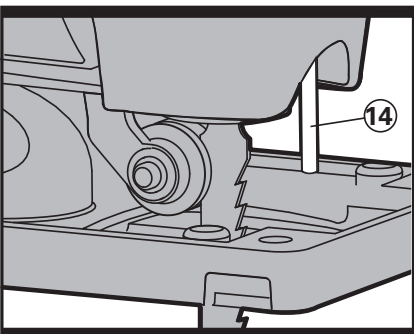

Fig 11
14. PROTECTION FINGER (See Fig 11)
This finger is located in front of the blade holder. Whilst working, it will help prevent accidental contact with moving blade (See fig 11).